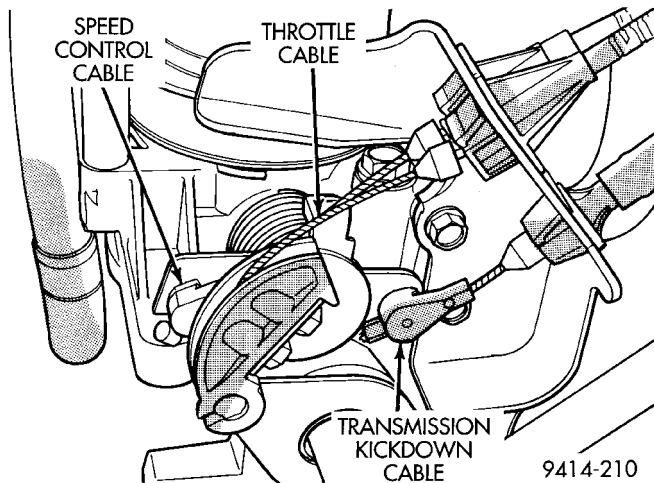

Fig. 56 Throttle Cable—Automatic Transmission
- (4) Verify the throttle cable operates freely (Fig. 56).